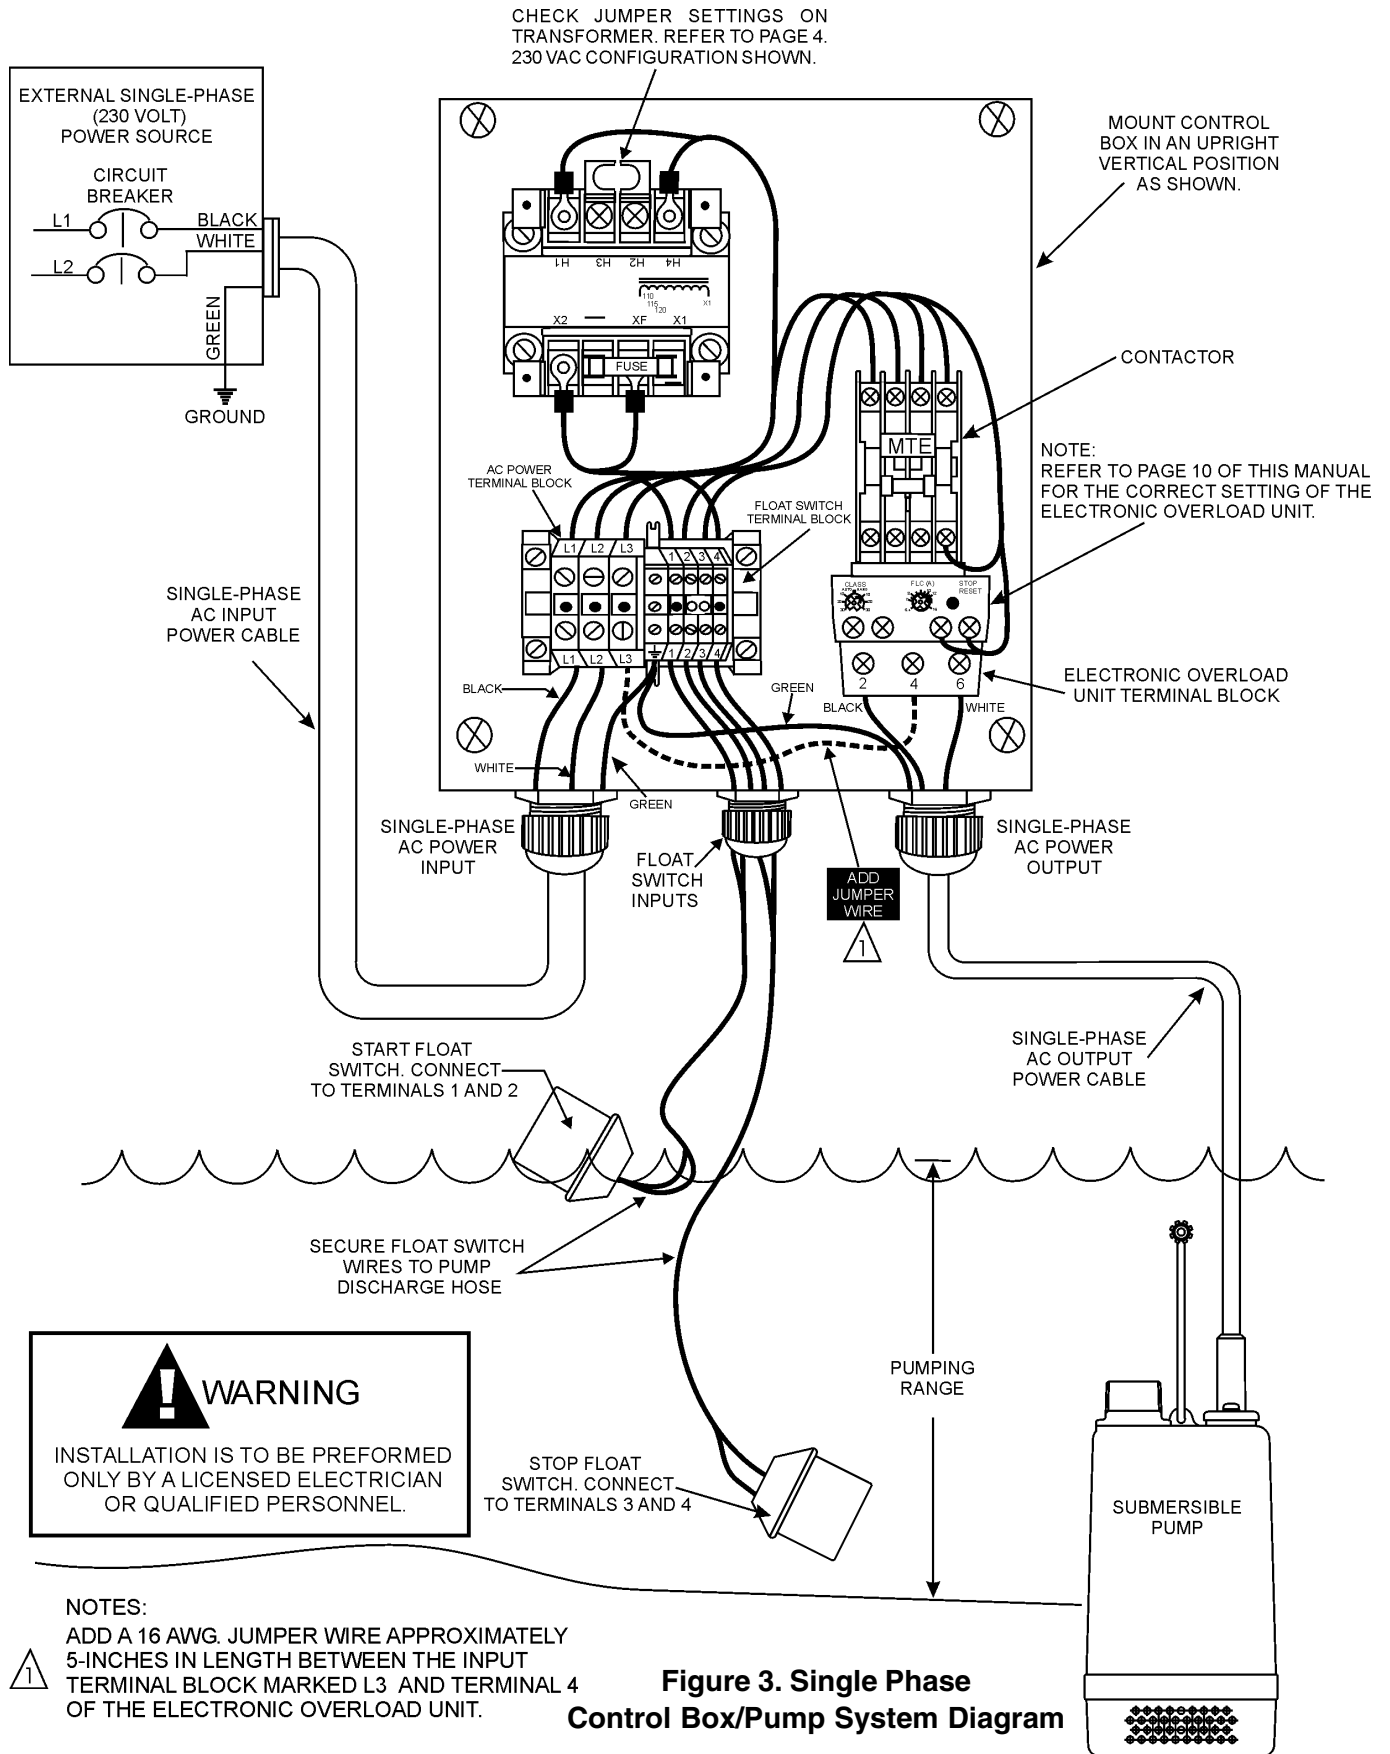

Figure 3. Single Phase Control Box/Pump System Diagram
2. Remove the 1-phase AC input connector housing from the control box, then route the single phase input power cable through the cable gland on the control box. Attach the wires to the AC terminal block inside the control box as indicated by Table 5 and Figure 3.
2. Remove the single-phase AC output power connector housing on the control box, then route the single phase output power cable through the cable gland on the control box. Attach the wires to the AC terminal blocks on the **electronic overload** unit as indicated by Table 6 and Figure 3.
1. Add a 16 AWG jumper wire, approximately 5-inches in length between the input terminal block marked **L3** and terminal **4** of the electronic overload unit. See Figure 3.